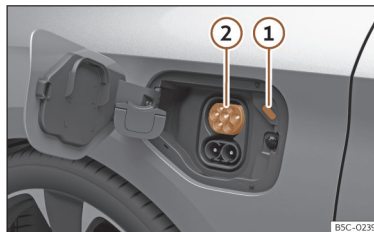

Fig. 60 Behind the battery charging cover on the front left-hand side: Charging socket
>>> Fig. 60
The LED (charging process indicator) of the charging socket ① flashes or flashes white >>> **Fig. 60** , >>> page 85.